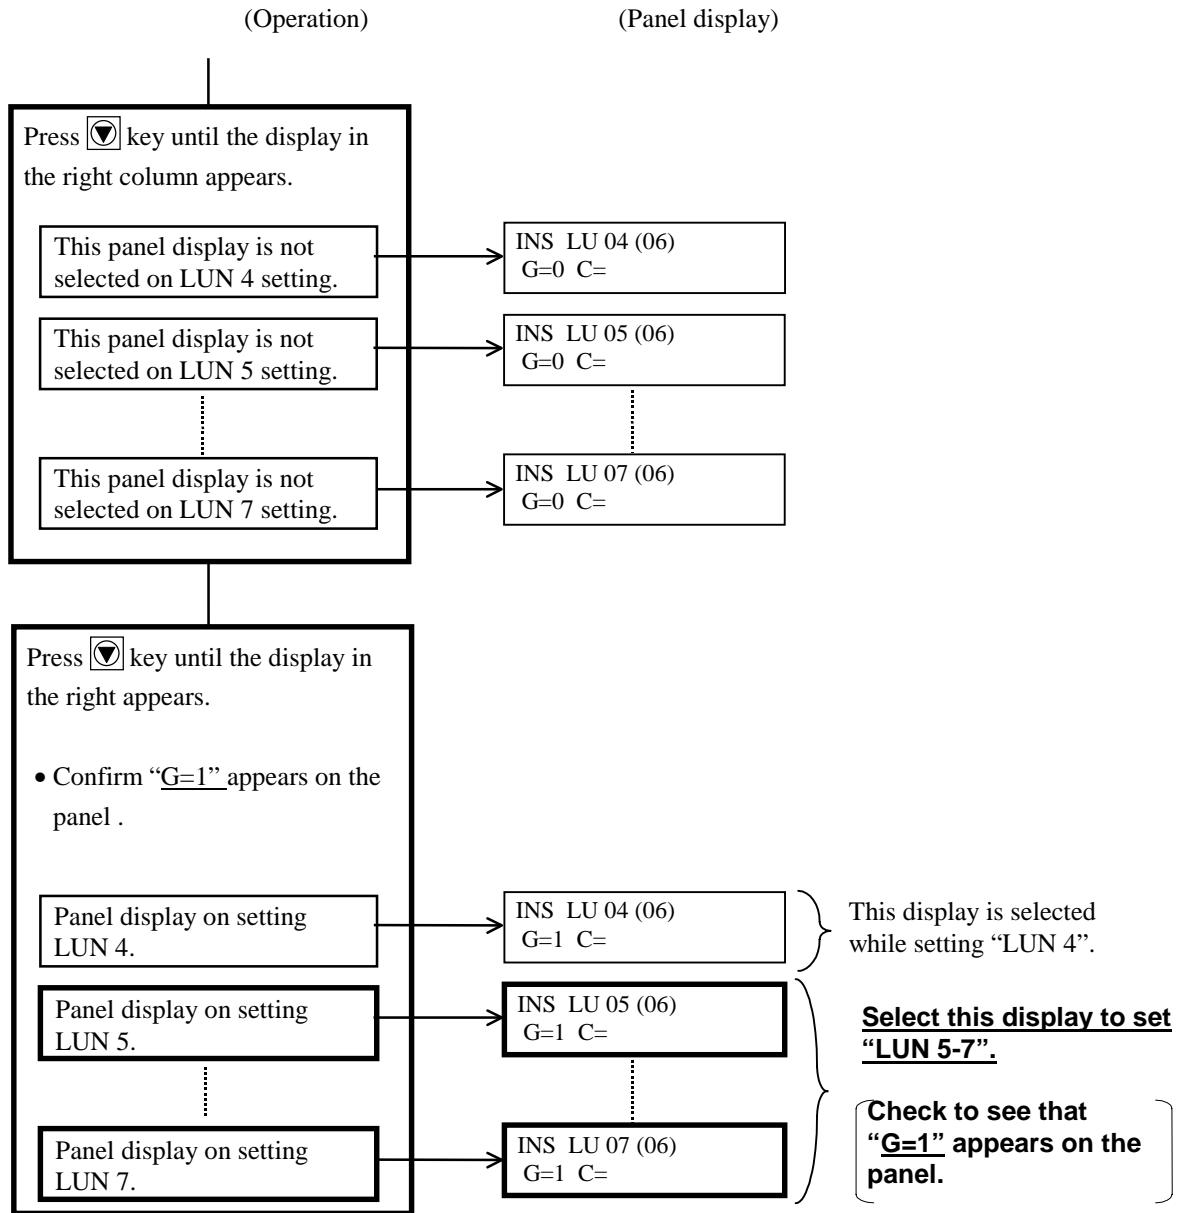

Figure 6.3.6-⑥ Selecting “LUN 5-7”
- After instituting LU CONFIG for LUN 5,6,7, go to (6).
(i) The difference in the selecting operation is shown in Figure 6.3.6-⑥